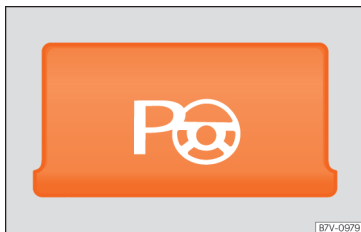

Fig. 269 Detailed view of the centre console: button to switch the park assist system on manually.
- **In parallel parking:** press the  »» **Fig. 269** button as many times as necessary to select the desired parking mode. When the function is enabled, the lamp button will light up. »
- »» **Fig. 269** button as many times as necessary to select the desired parking mode. When the function is enabled, the lamp button will light up.
- Press button . When the function is enabled, the button  **Fig. 269** will light up.